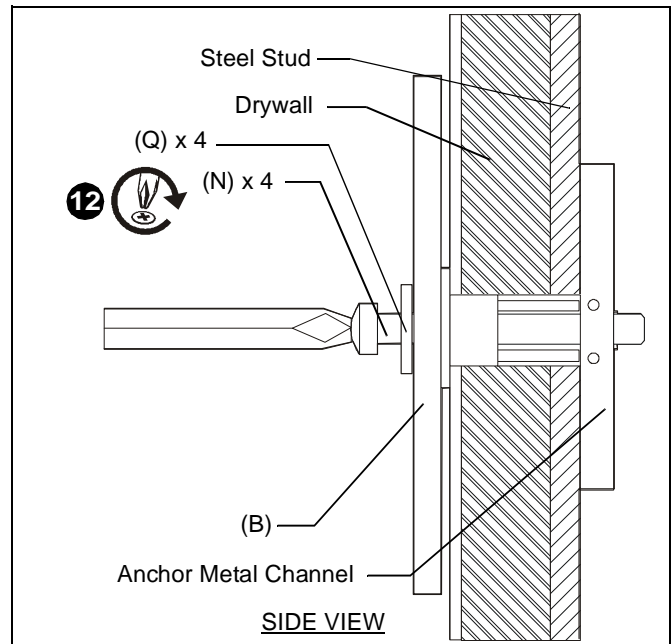

Figure 9
11. Place wall bracket over anchors and align mounting holes in display mount with holes in anchors. (See Figure 9)
12. Insert 1/4-20 x 1 3/4" Phillips pan head screws (N) through 1/4" washer (Q), corresponding mounting hole on wall bracket and into anchor (P) and tighten until flush against mount. DO NOT overtighten! (See Figure 9)